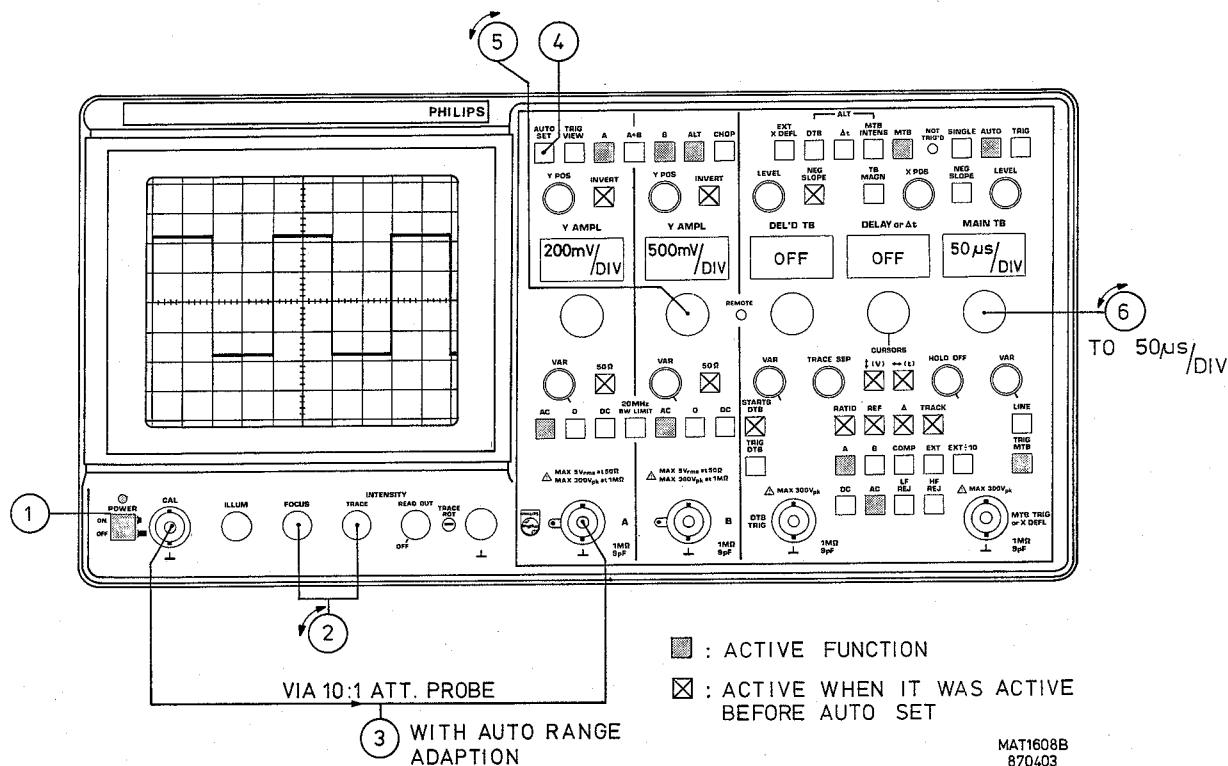

Fig. 4.19. Preliminary settings
- ①. Switch on the oscilloscope and check if the POWER-UP routine is executed in accordance with Section 4.1.
- ②. Set the INTENS and FOCUS controls for a well-defined sharp trace.
- ③. Connect the CAL signal to the A input via the 10:1 att. probe with automatic range adaption BNC plug.
- ④. Press pushbutton AUTO SET; the functions indicated in Fig. 4.19. Preliminary settings, should be active and the square-wave should be visible on the c.r.t. screen (2 div. trace height).
- ⑤. Set Y AMPL of channel A to 200mV/DIV, and channel B to 500mV/DIV.
- ⑥. Set MAIN TB to 50µs/DIV, indicated in LCD.
- ⑦. Set the functions indicated with ☒ off by pressing once (if necessary).